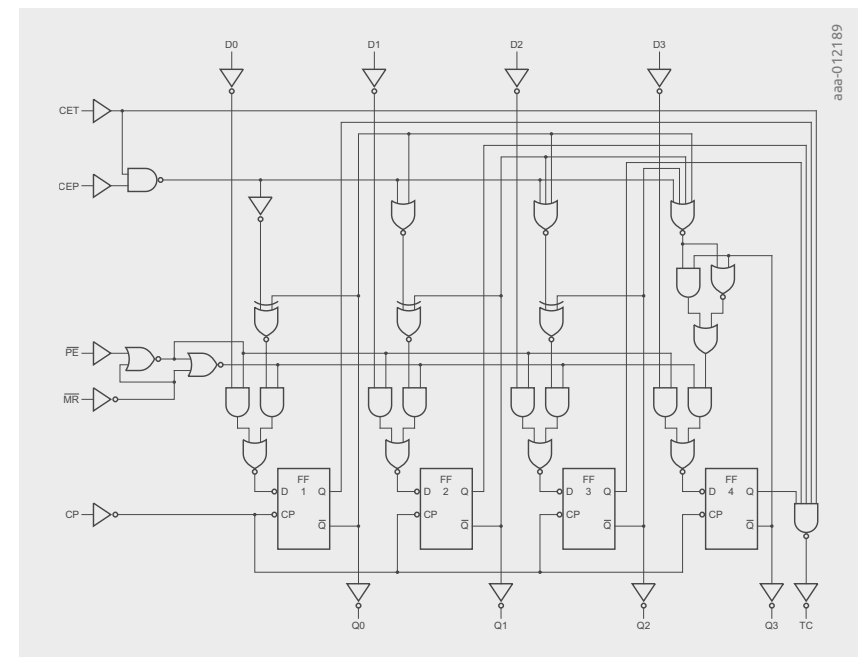

Figure 6.27 | Logic diagram of a 4-bit synchronous counter with parallel load and reset
For an synchronous counter all flipflops change the state at the same time. Each flipflop gets the same clock signal. In Figure 6.27 an example of a 4-stage synchronous counter is shown. This counter supports a synchronous parallel load and reset operation. The counter has a special carry output supporting the construction of bigger counters.
**Table 6: Function table of the synchronous counter shown in Figure 6.27**